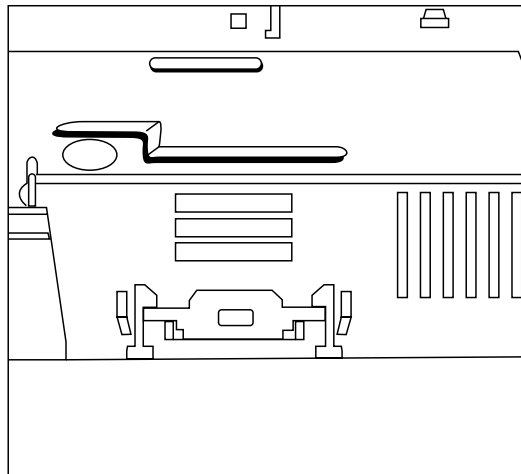

Figure 5-12. Securing J1
5. Slide J1 under the printer mounting plate to the keyboard access opening. Pull it through the opening and secure it with the retaining clips (where J16 originally was). See Figure 5-12. (Some cables are marked with KBD or Keyboard rather than •.)